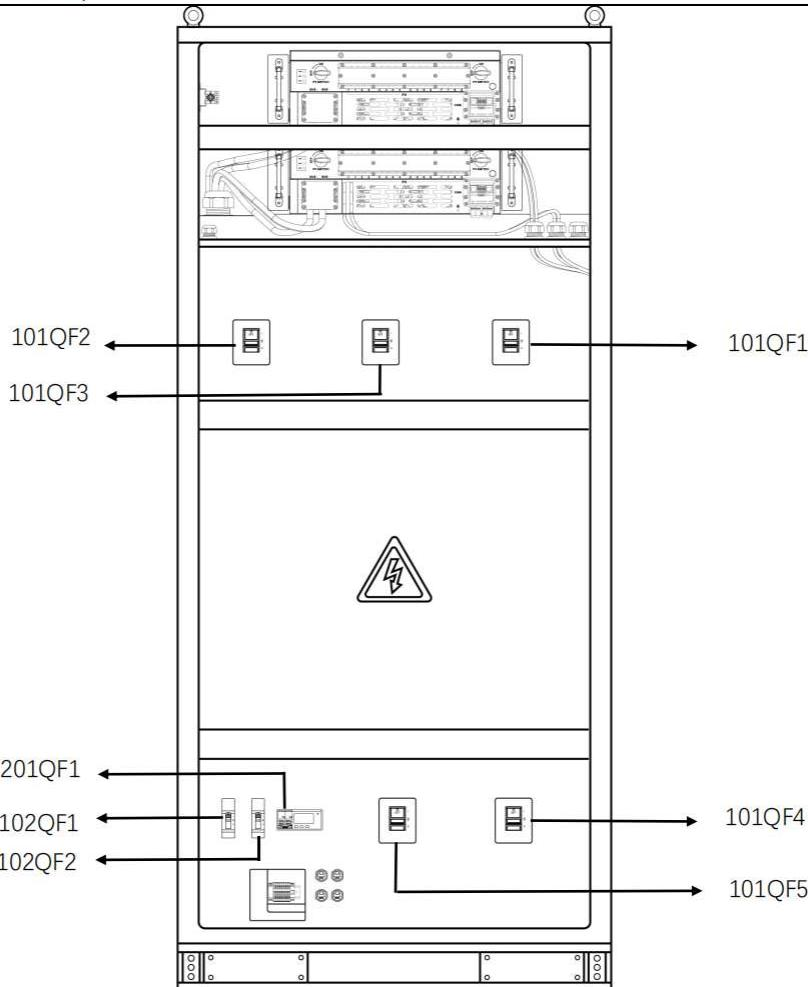

Figure.3
2. Perform an visual inspection to ensure all breakers from **101QF1** to **101QF5** and from **102QF1** to **102QF2** are disconnected. See the Figure.3.
3. Have the external power grid and diesel generator energized, and measure whether the external voltage is normal by a multimeter. See the Figure.3.
4. Turn on circuit breakers **101QF1** and **101QF2**, and visually inspect whether the indicator lights of the power grid, diesel generator, and STS transfer switch are properly illuminated. See the Figure.3.
5. Turn on circuit breaker **201QF1** and visually inspect whether the 24V load indicator light is properly illuminated. See the Figure.3.
6. Turn on circuit breaker **101QF4** and visually inspect whether the load indicator light is properly illuminated. See the Figure.3.
7. Turn on circuit breakers **101QF5, 102QF1** and **102QF2**. See the Figure.3.
2. Turn off circuit breakers **101QF5**, **102QF1** and **102QF2**. See the Figure.3.